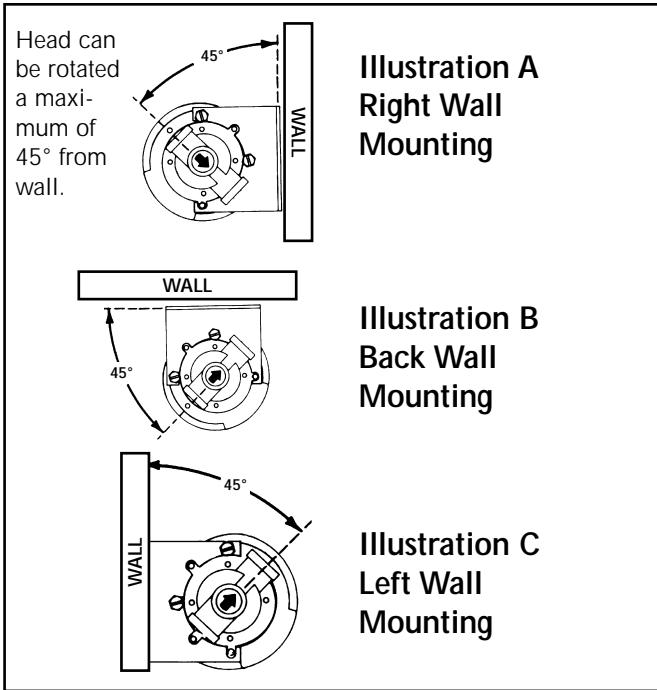

Figure 2
4. Refer to Figure 2 to determine the best filter bracket